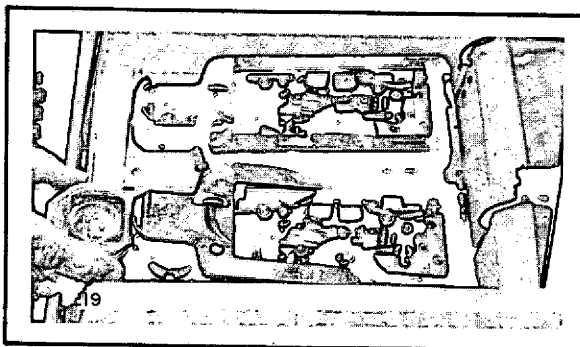

Fig. 3-3. Insert Tape Cartridge
- c. Insert the tape cartridge into tape drive 2. Check that the position of write pin is correct. (See figure 3-3.)